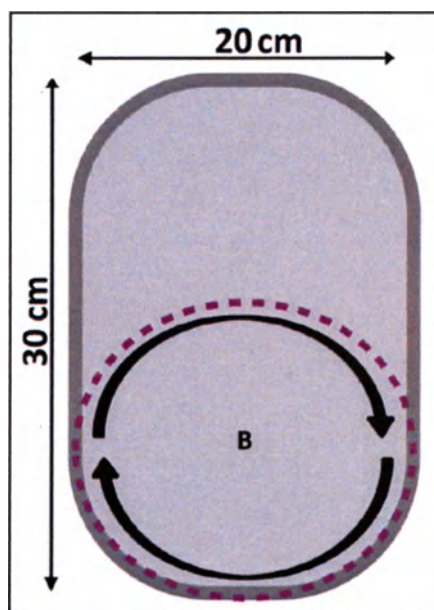

Figure 34: Segment B Treatment Illustration
- Treat segment **B** in a circular horizontal **Clock-Wise** manner (see Figure 34) in a gliding technique, until the skin surface at the treated segment reaches 43-45°C or the patient cannot tolerate the heat.